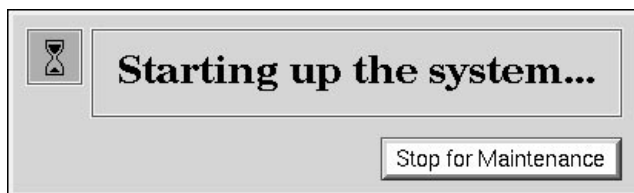

Figure B-3 System Startup Notifier
2. While the system is powering up, you see the notifier shown in Figure B-3 on your monitor screen.